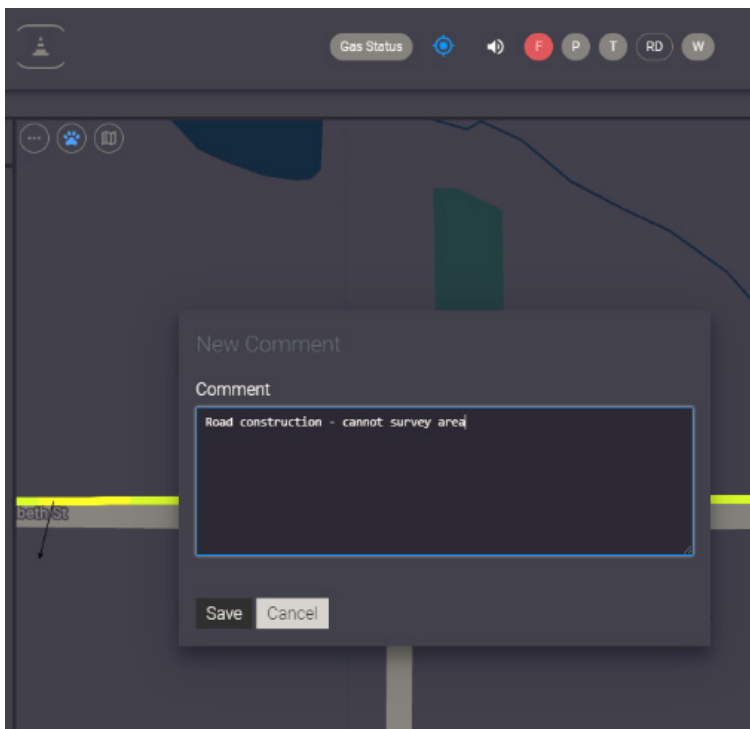

Figure 95 Cone Comment Window
- 2 The window shown in Figure 95 appears: Enter a comment.